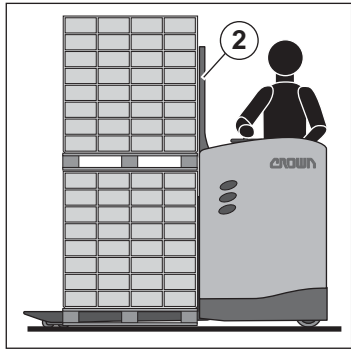

Fig. 3 Stacked loads
- *Use a load backrest (Fig.3, ②) to stabilize high loads and loosely packed loads that could fall.*